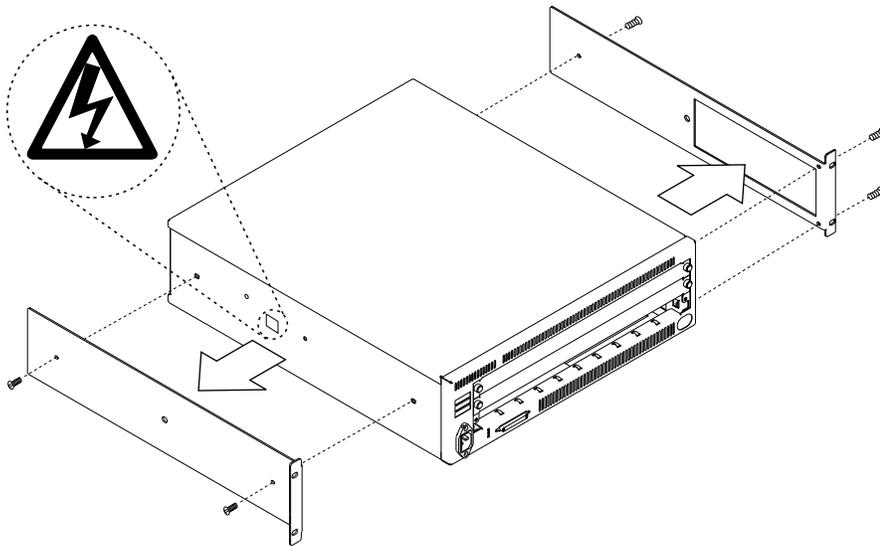

Figure 32. Attaching the Mounting Brackets for Surface Mounting
- 2 Remove the brackets and reattach the screws to the Expansion Unit as shown in Figure 32. Retain the brackets for possible future rack mounting.